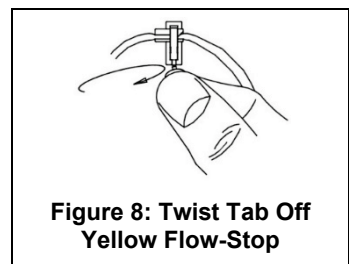
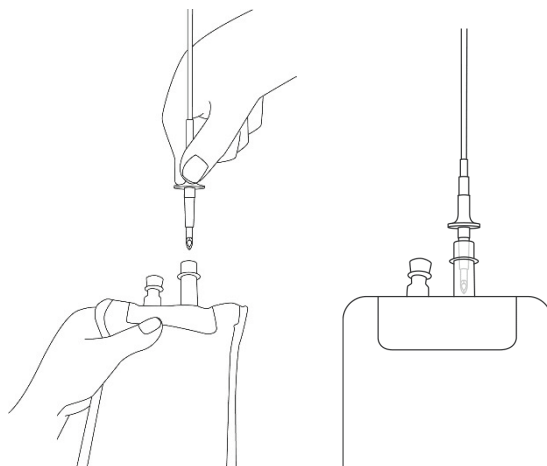

**Figure 7: Example Administration Set**
**Figure 8: Twist Tab Off Yellow Flow-Stop**
Figure 7 is an example of an administration set. Yours might look slightly different, but will have most of the labeled parts. (Not all administration sets include air eliminating filters.)
4. Twist and break off the tab on the yellow flow-stop. See Figure 7 and Figure 8.
3. Pinch the yellow flow-stop between your thumb and forefinger to allow the fluid to flow. See Figure 7 and Figure 11.
6. Close the slide clamp. See Figure 7.
1. Ensure that the slide clamp is closed. See Figure 7.